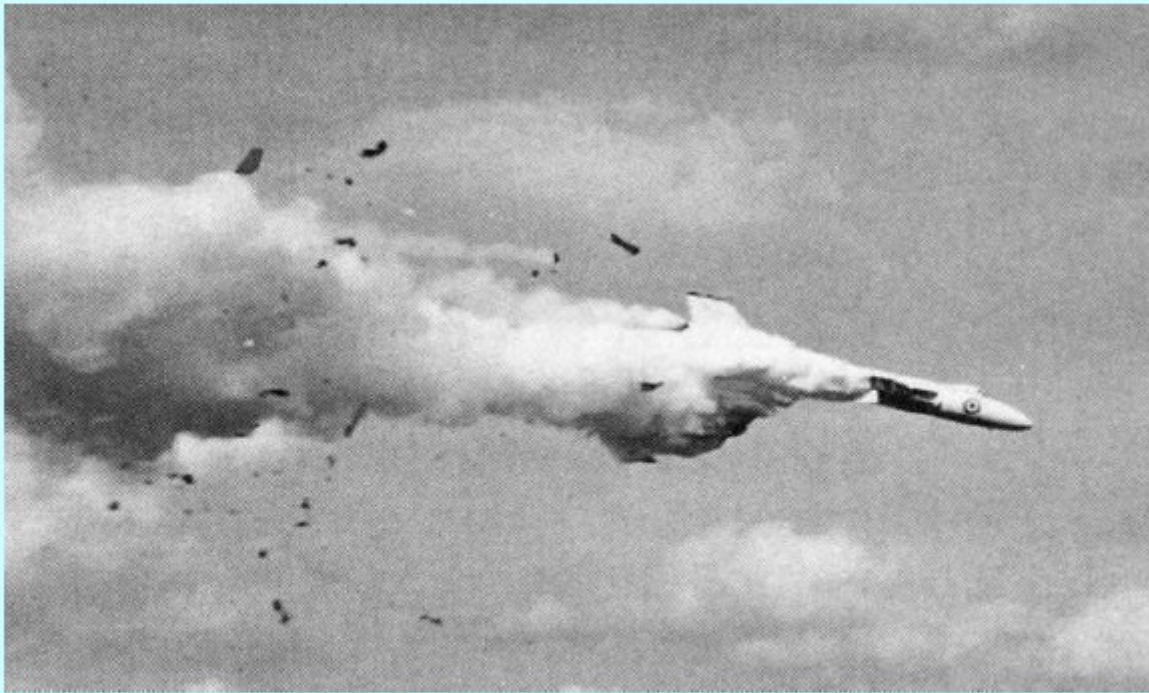

Figure 4 – Vulcan VX770 disintegrating at Syerston Airshow in 1958
Well, it doesn't measure speed at all – it doesn't measure True Airspeed or even Ground Speed - it actually measures pressure – the Dynamic Pressure – or "Q", which is a measure of how much "Dynamic Energy" the air has when the aircraft strikes it – or vice versa. If there is low energy (low "Q") – then it will show a Low Indicated Airspeed (IAS), and you may not be able to generate enough lift to overcome the weight. Conversely, too much "Q" (High IAS), combined with too much angle of attack (AoA), and you might generate so much lift that you end up pulling the wings off ! For example if you decide to pull more than the limiting amount of Load Factor when pulling out of a high speed dive ! – See Figure 4.
Well, entry speeds for each of the manoeuvres for which the aircraft is certified will be placarded somewhere. These will have been established following a rigorous flight test programme, flown by a Test Pilot, and just like the Maximum Take-off Weight, or the Centre of Gravity Limits, they must be complied with. Why ? - because if you don't, the aircraft is essentially operating outside of its Certified Limits, or to put it bluntly, you might break it ! – See Fig 4.
But with Dynamic Energy (Q), it is possible to have too much.....just have a look at the following photo (Figure 4). It’s a Vulcan Bomber breaking up at an airshow, while carrying out a high speed run that involved a Pitch and Rolling Manoeuvre at a speed that exceeded the design limits of the aircraft.....all on board were killed.